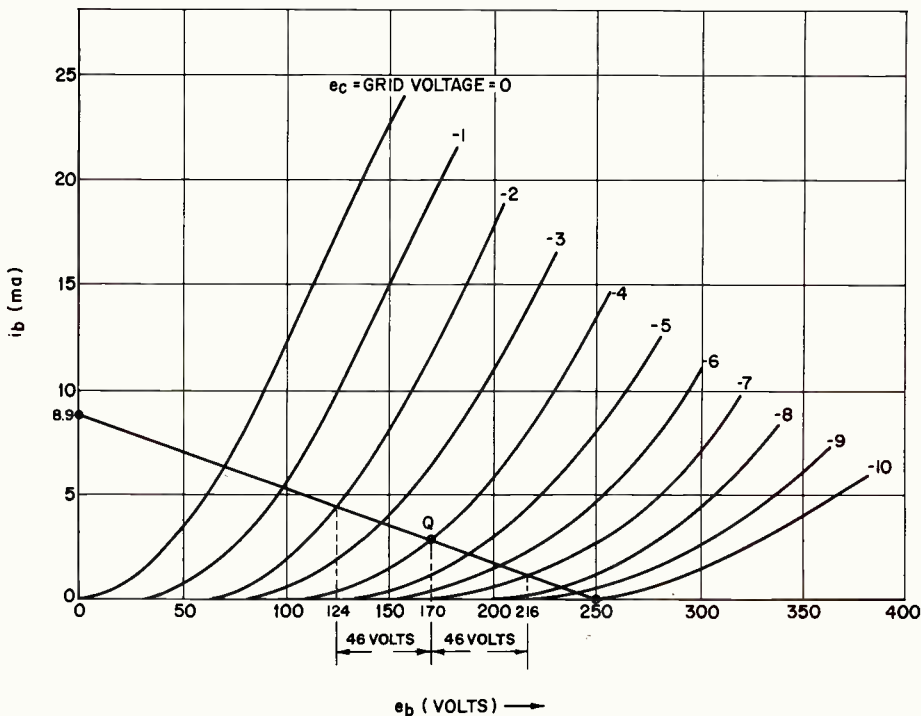
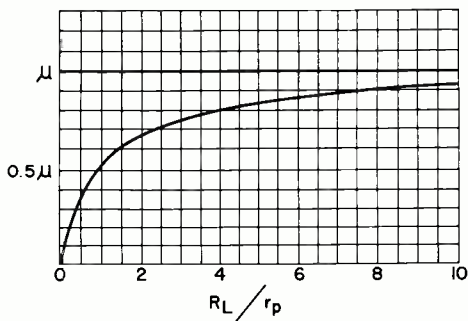

FIG. 7. Triode characteristics showing load line and correct operating point.
FIG. 8. Effect of load resistance on voltage amplification.
Place the edge of a ruler on the 250-volt mark on the plate voltage axis. Now rotate about this 250-volt mark until you find the proper Q point (no grid signal). The proper Q point is when, for a given swing in grid voltage above and below the bias, the plate voltage swings the same amount in each direction. When you have located the proper Q point, all that must be done to draw the load line is to place your ruler on the 250-volt mark and on the Q point and connect these two points. Extend the line over to the plate current axis. This is shown in Fig. 7. Where this load line crosses the  $i_b$  axis is our new plate current (8.9 ma). From this we can now calculate our load resistance. Since we know the plate supply voltage (250 volts) and the plate current (8.9 ma) we can solve for the load resistance. Using the formula  $i_b = E_{bb}/R_l$ , transposing, and solving for  $R_l$  gives  $R_l = E_{bb}/i_b = 250 + .0089 = 28K$  ohms. As can be seen in
Fig. 7, for a 2-volt swing in grid voltage above and below the bias ( $E_{CC} = -4$  volts), the plate voltage swings an equal amount in each direction. Now we have an amplifier that will operate properly so we can safely determine our amplifier's voltage amplification.
Fig. 7 shows how the load resistance affects the voltage amplification. The curve in Fig. 8 shows that the maximum possible voltage amplification obtainable from the single tube amplifier under discussion is equal to the amplification factor of the tube used. This value would be obtained at least theoretically, as the load resistance becomes infinite. Of course, the necessity of keeping the operating point fixed introduces practical difficulties when an attempt is made to increase the load resistance. Furthermore, the shunting effect of the capacities between tube electrodes and lead wires becomes more troublesome as the load resistance is increased. In practice, the load resistance,  $R_L$ , seldom exceeds a value ten times the
plate resistance,  $r_p$ , for triodes. The curve in Fig. 8 shows that the improvement in voltage amplification, obtainable by increasing the load resistance, is relatively small after the load resistance is four or five times the plate resistance.
From Fig. 7 it is apparent that making the grid more negative than the bias voltage (-4 volts) causes: (1) plate current to decrease; (2) plate voltage to increase.
The voltage amplification of the simple amplifier of Fig. 2 can be determined from a graphical analysis of the type shown in Fig. 7.